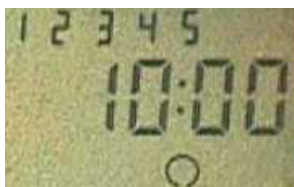

Fig. 11
- Press the Select button until the  symbol is shown (see fig. 11).